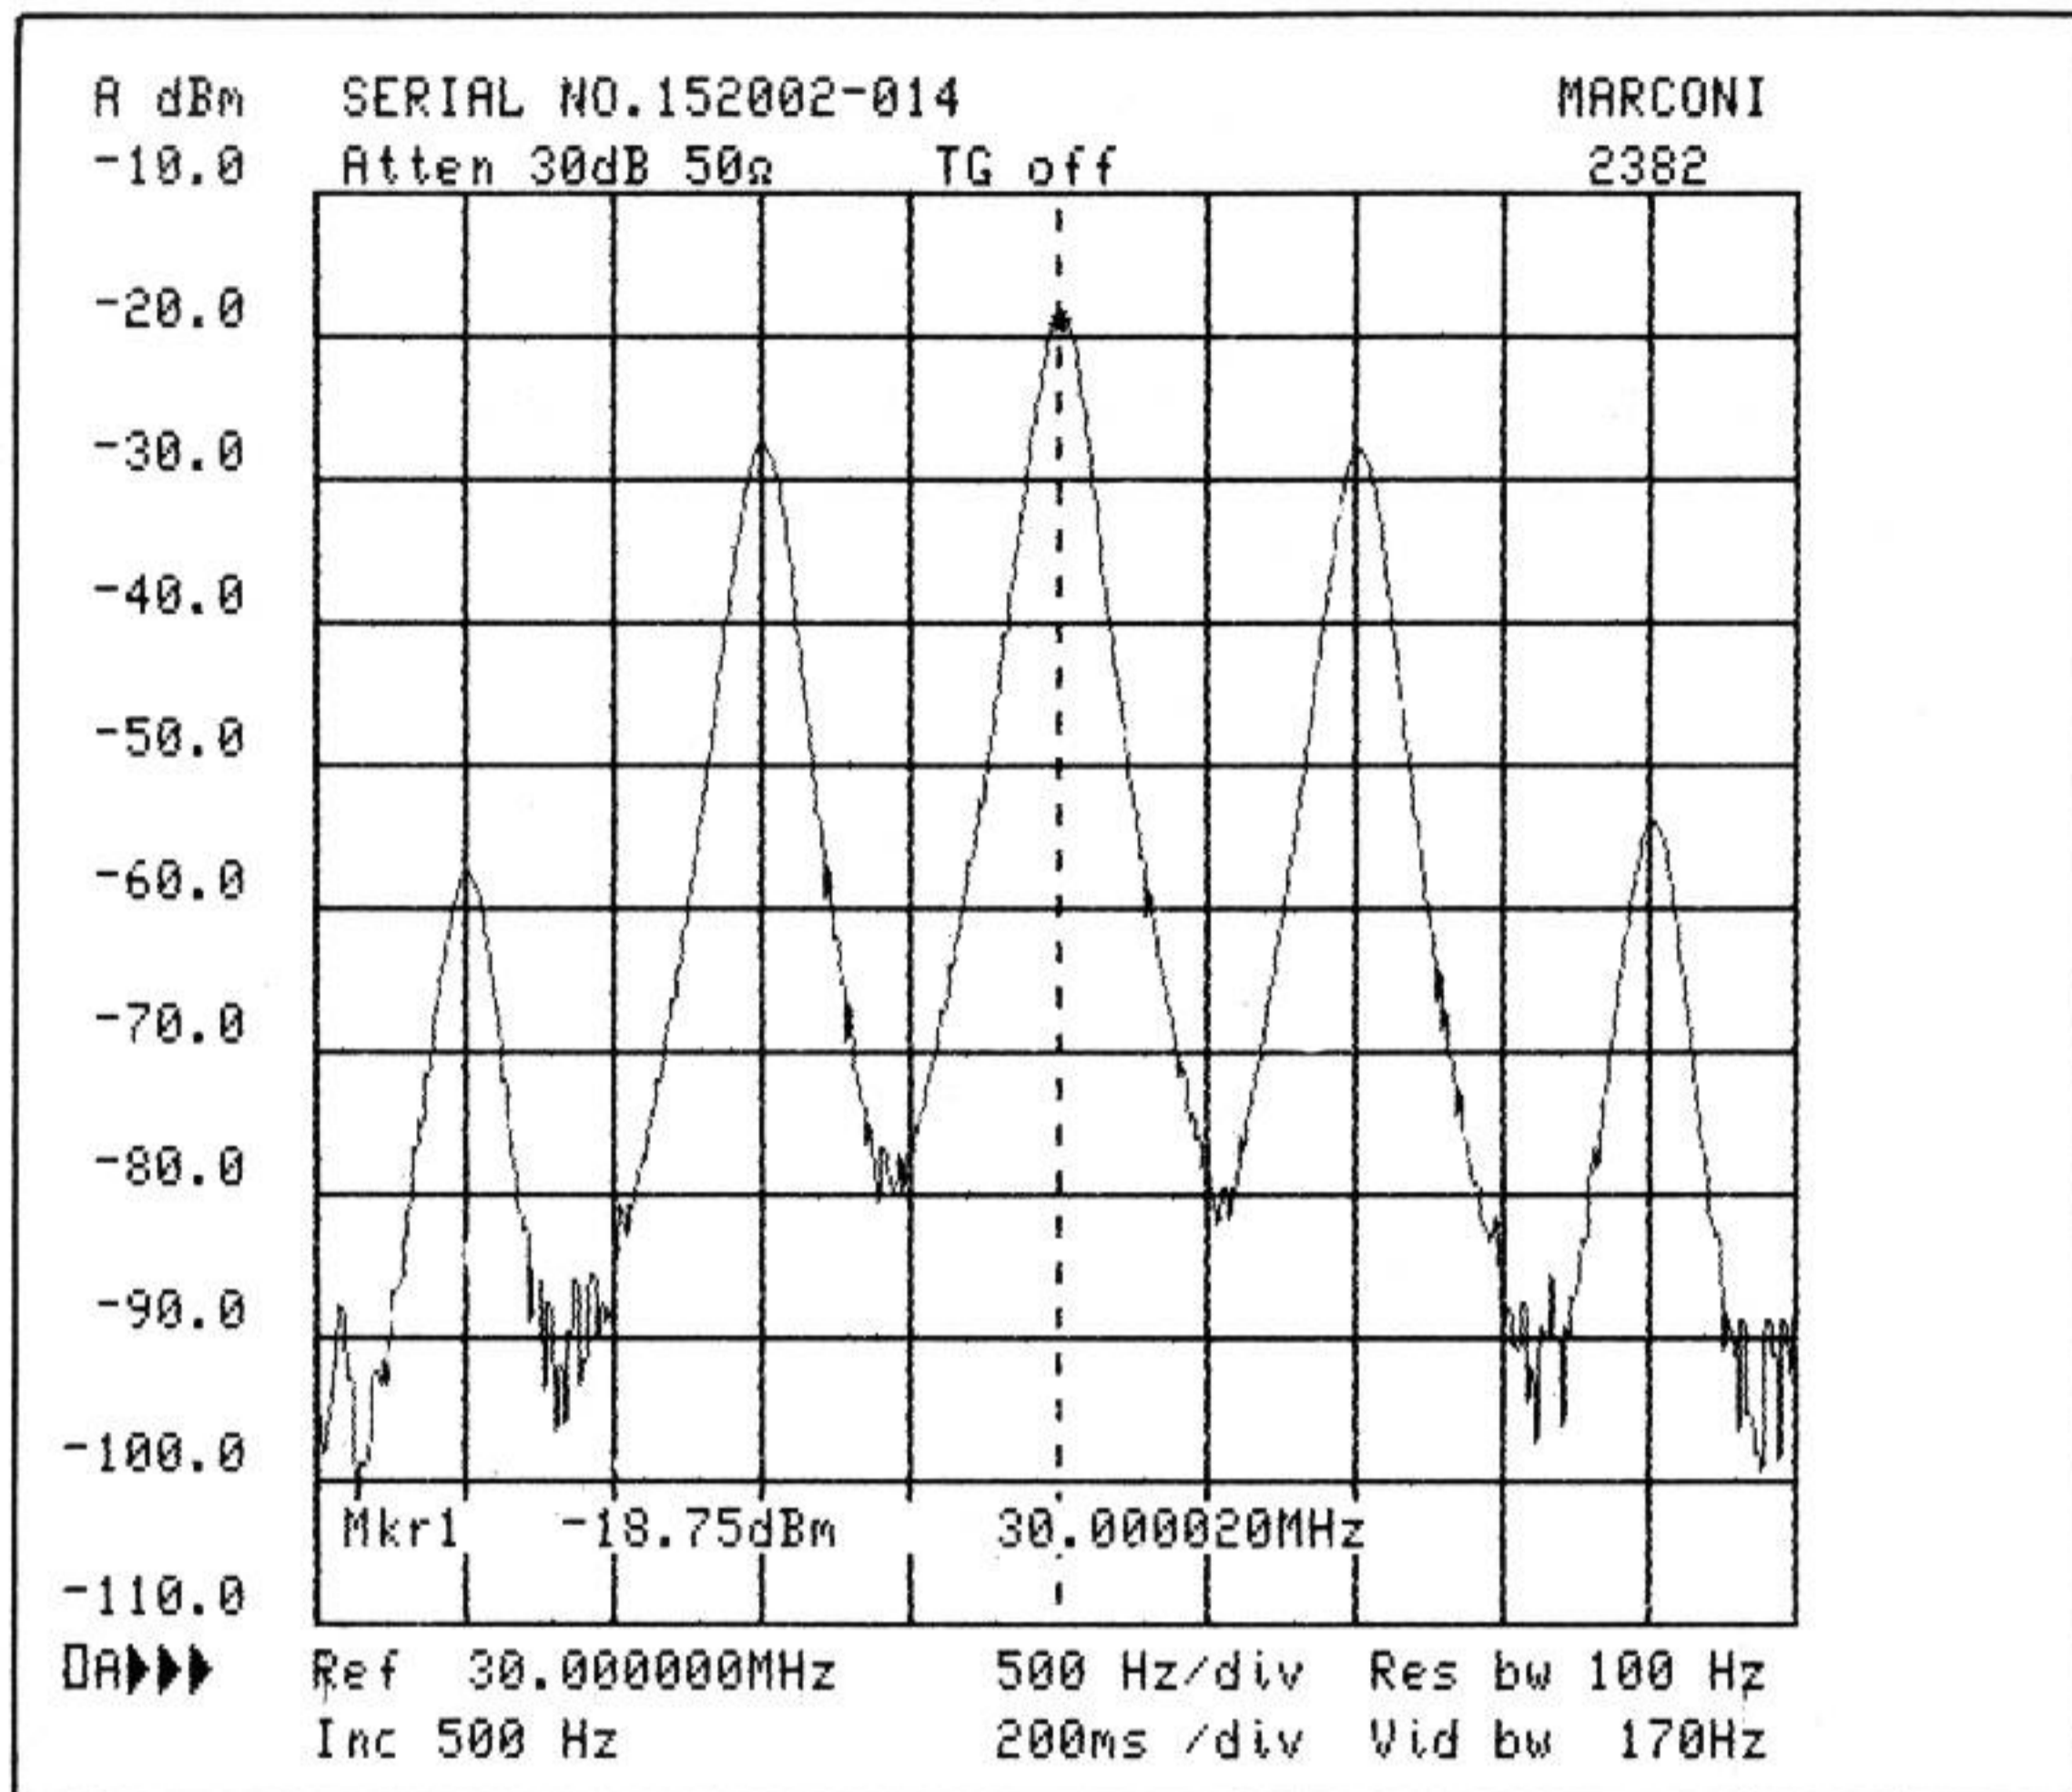

Fig. 13 Frequency spectrum of AM signal
64. Press REF FREQ key [12] and key in 30 MHz using the DATA keypad [19] and the MHz terminator [20]. Set the SPAN/DIV rotary control to display the 30 MHz carrier at the centre of the screen and to give good separation between the upper and lower sidebands and their distortion products (e.g. 500 Hz/div. as in Fig. 13). Operate the $\uparrow\uparrow$ REF LEVEL keys to give optimum sensitivity.